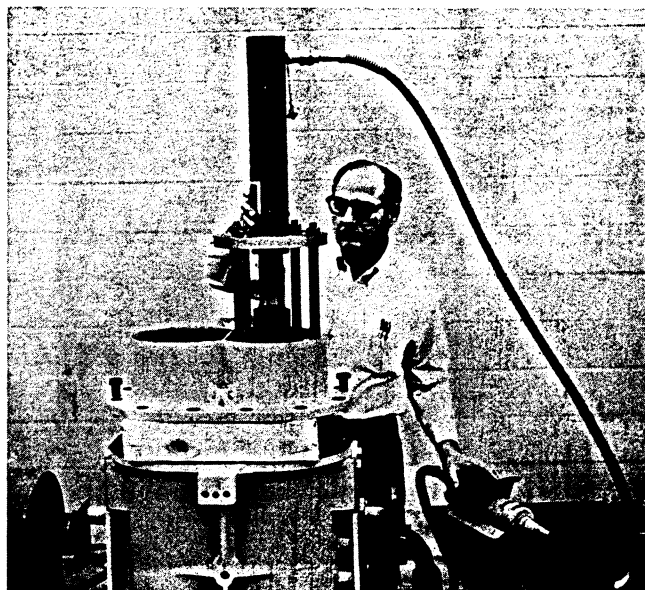

Figure 15
12. Remove the place bolts from the two bearing retaining plates. Remove the retaining plates. Press the male and female rotors out of the rear bearing housing using a hydraulic ram. Refer to Figure 15. As soon as the inner races of the bearings have been cleared by the rotor shafts, the rotors will drop into the rotor housing cylinder bores.